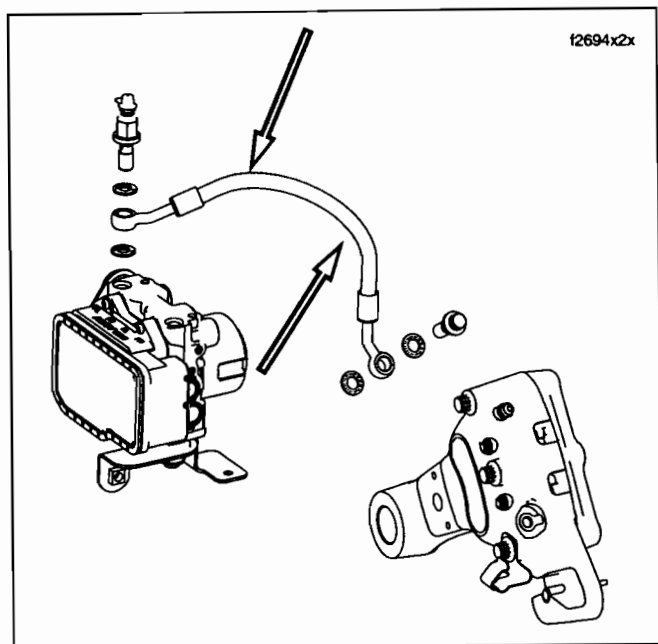

Figure 2. Brake Line 40610-05 to Saddlebag Cut Out and Adjacent Hoses
4. See Figure 2 and Table 1. Inspect the brake line (Part No. 40610-05) leading from the ABS module to the rear caliper. Pay careful attention to the following areas: